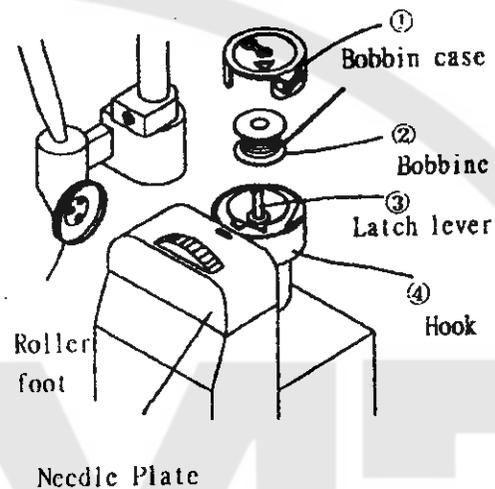

Fig13
- 4) Turn up the latch lever (3)
- 5) Place the bobbin (2) into the hook (4)
- 6) Set the bobbin case (1) and flap down the latch lever
- 7) Close the post cap in fig 13